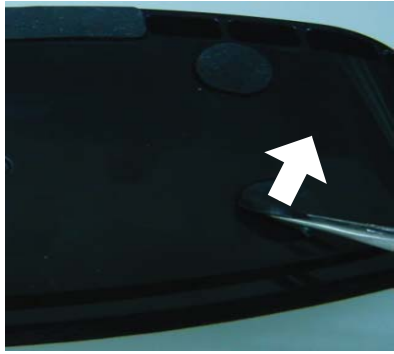

Figure 1
- 1) Uncovered base pad as show in figure 1